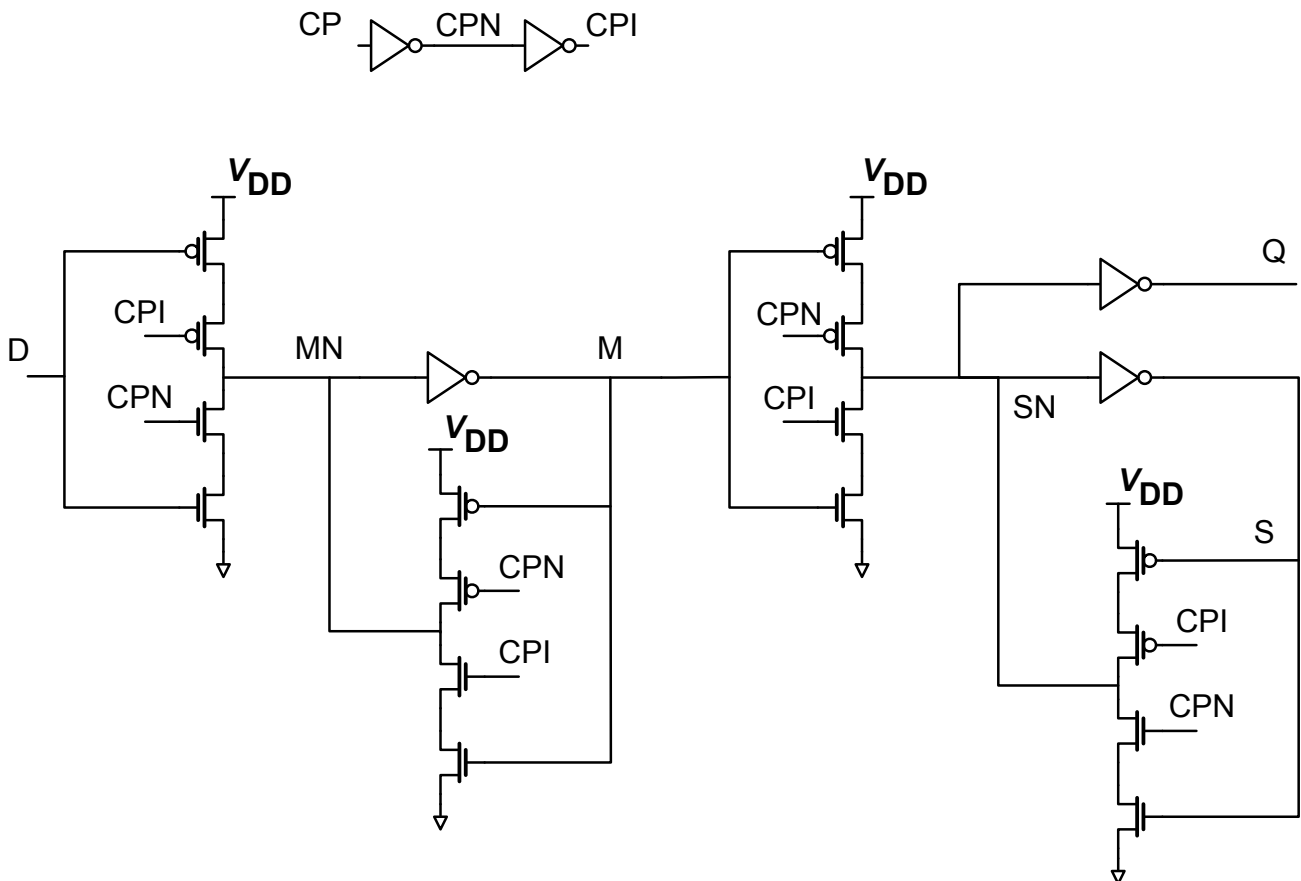

Figure 5.1: Schematic of the flip flip D
2. Fig. 5.1 shows the schematic of the flip flop D *FD1QLL*. Simulate both the netlists and try to understand what happens. Note that for each netlist you will have two simulations (HL and LH). Sweep among the signals, half of them are for the HL transition, the remaining for the LH.